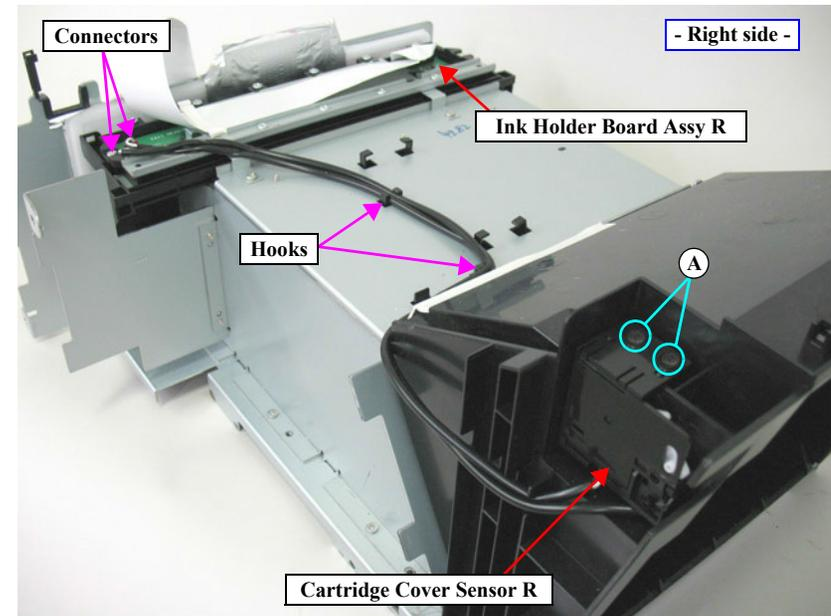

Figure 4-40. Removing the Cartridge Cover Sensor R
9. Release the harness from the two hooks. *See Figure 4-40.*